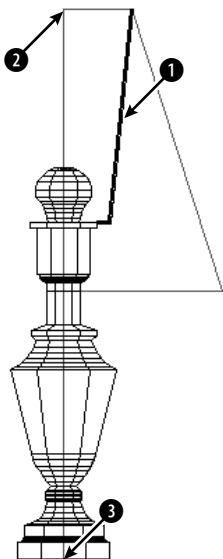

**Figure 24-36:** A partially completed lamp.
2. Save the file as `ab24-11.dwg` in your **AutoCAD Bible** folder. You see part of a lamp, as shown in Figure 24-36. Make sure that **OSNAP** is on. Set a running object snap for endpoint.
Select objects: *Select the support at ❶ in Figure 24-36.*